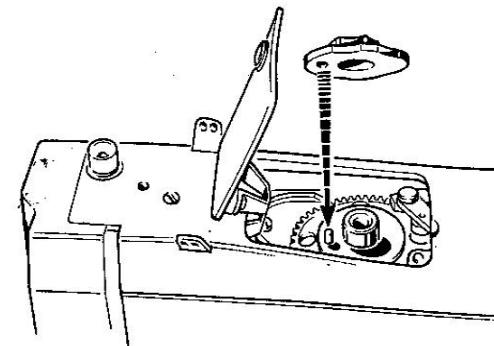

Fig. 50
- Insert desired cam onto the rotary shaft so that the mark pivot slips into the corresponding hole of the cam (Fig. 50).